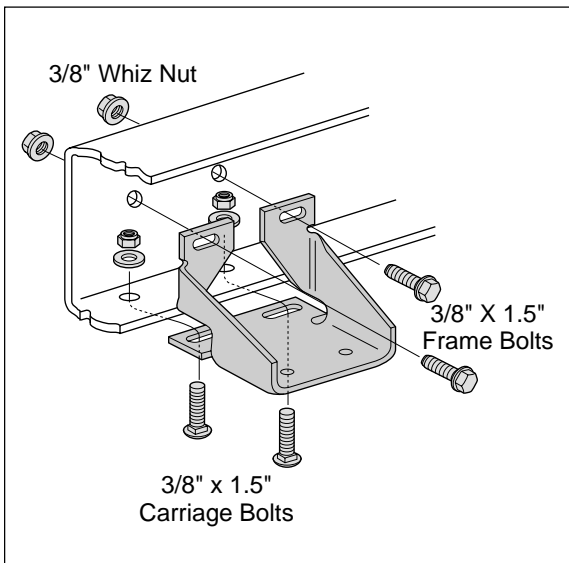

Figure 3
3. Loosely attach upper bracket to the frame rail by using the $\frac{3}{8}" \times 1.5"$ washerhead frame bolts (L) and whiz nuts (N) through the side of the rail and the two $\frac{3}{8}" \times 1.5"$ carriage bolts (K) through the flange (Figure 3).